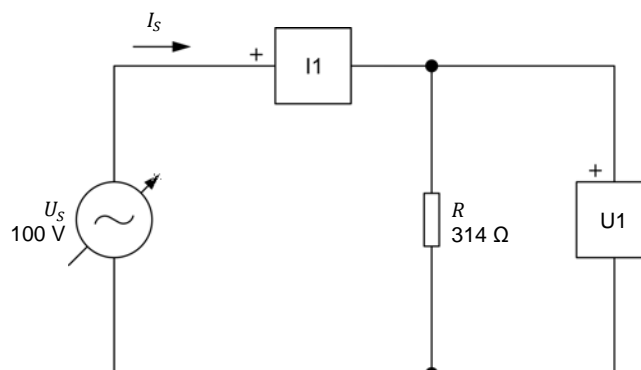

Figure 1-8. AC circuit containing a resistor.
9. Set up the circuit shown in Figure 1-8. Note the symbol used to indicate a variable-voltage ac power source in this circuit. In order to obtain the resistance value indicated next to the resistor in Figure 1-8, make the necessary switch settings on the Resistive Load.